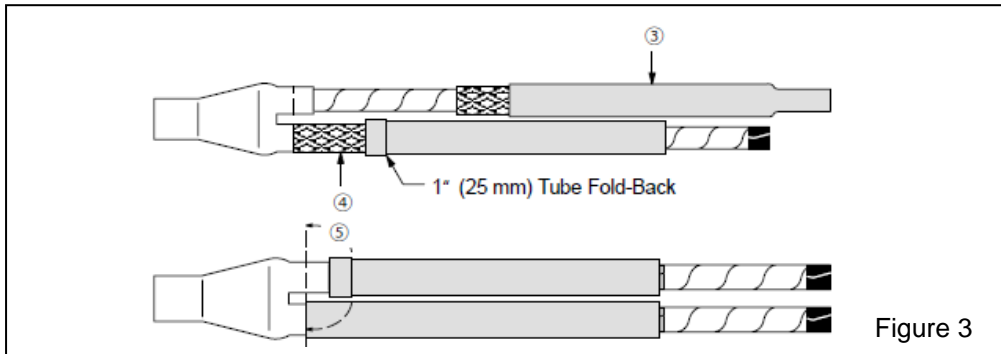

Figure 3
4. Install rejacketing sleeve assemblies (Figure 3).
- a. Open polyester braid end and push assembly into place ③ (Figure 3).
- b. Push assembly to desired final position ④ (Figure 3), then fold silicone sleeve back on itself for 1.0" (25 mm).
- c. Trim off exposed polyester braid material ④ (Figure 3).
- d. Push sleeve assembly into final position and flip silicone sleeve into place ⑤ (Figure 3).